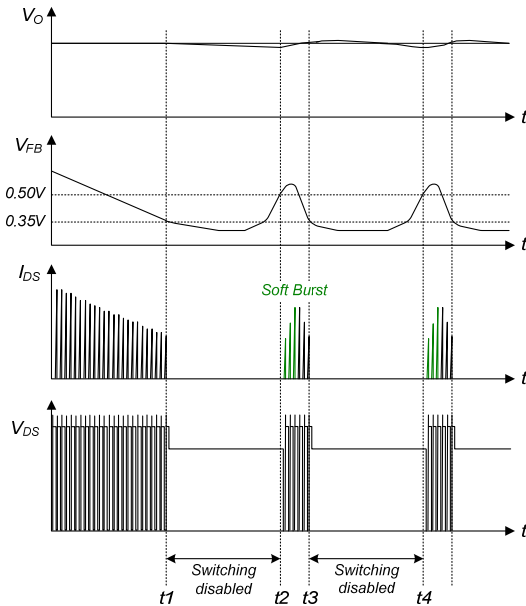

**Figure 22. Output-Short Protection**
**4.3. Output-Short Protection (OSP):** If the output is shorted, steep current with extremely high di/dt can flow through the SenseFET during the minimum turn-on time. Such a steep current brings high-voltage stress on the drain of the SenseFET when turned off. To protect the device from this abnormal condition, OSP is included. It is comprised of detecting  $V_{FB}$  and SenseFET turn-on time. When the  $V_{FB}$  is higher than 2.0V and the SenseFET turn-on time is lower than 1.0 $\mu$ s, this condition is recognized as an abnormal error and PWM switching shuts down until  $V_{CC}$  reaches  $V_{START}$  again. An abnormal condition output short is shown in Figure 22.